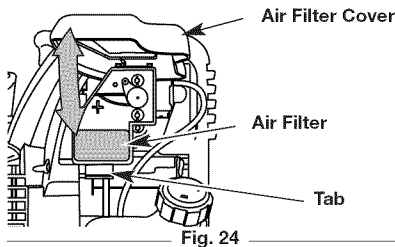

Fig. 24
- Open the air filter cover. Push the tab on the under side of the cover inward. Then pull the air filter cover out and up. (Fig. 24).
- Remove the air filter (Fig. 24).
- Replace the filter (Fig. 24).
- Swing the cover down until the tab on the air filter backplate snaps into place in the slot on the air filter cover (Fig. 24).